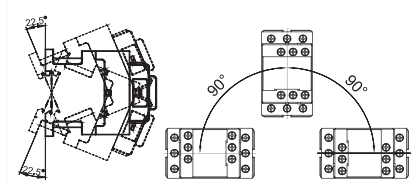

Fig. 3 HDCX-09-38 DC Installation requirements
- Product installation requirements are shown in Figure 3.